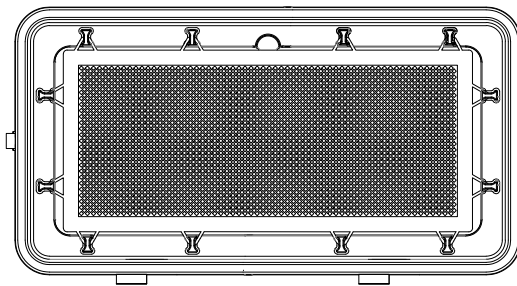

Fig. 3
- 5. Accessory Net:** Inside the lid hangs the Accessory Net. (See fig 3.) Elastic loops mount the net to hooks built into the lid. The net can be used to store MK-III accessories, such as the AC charger. If stowing a headset, ensure that it is not pressing against the umbilical binding posts when the lid is closed.